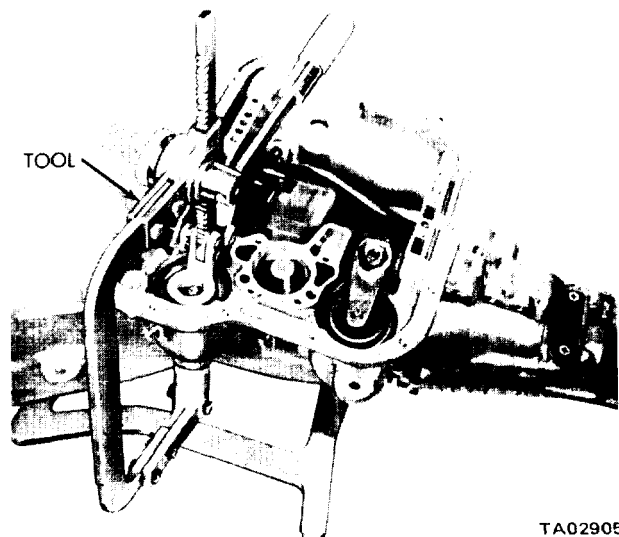

Figure 18-7. Compressing Kickdown Servo Spring.
(1) Compress the kickdown servo spring by using an engine valve spring compressor. Then remove the snap ring as shown in figure 18-7.